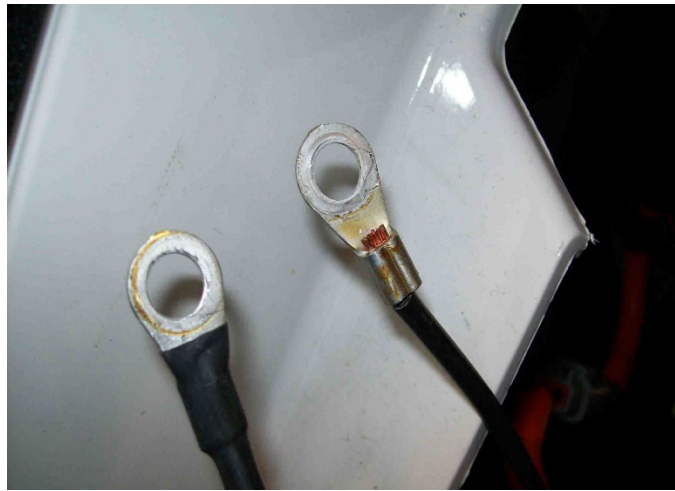

Fig. 10
1. Locate the two ground wires that were removed from the battery pack negative connection. (Fig. 10)